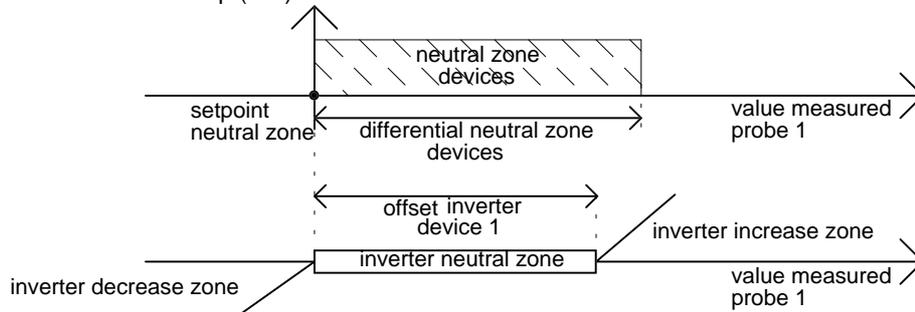

Fig. 14
**Sr1 - inverter step of the device no.1 (see fig. 14).**
**Sr2 - deviation of the device no.1 inverter (see fig. 14).**